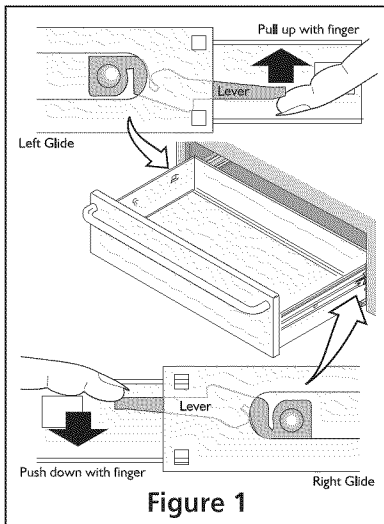

Figure 1
2. Locate the glide lever on each side of drawer; pull up on the left glide lever and push down on the right glide lever (see figure 1).